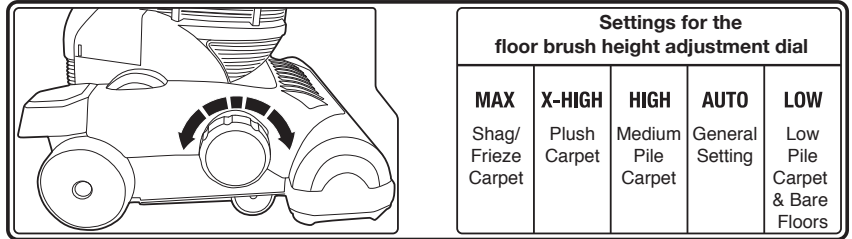

Fig. 1
1. When the vacuum handle is reclined, rotate the height adjustment dial to the type of floor being vacuumed (Fig. 1).